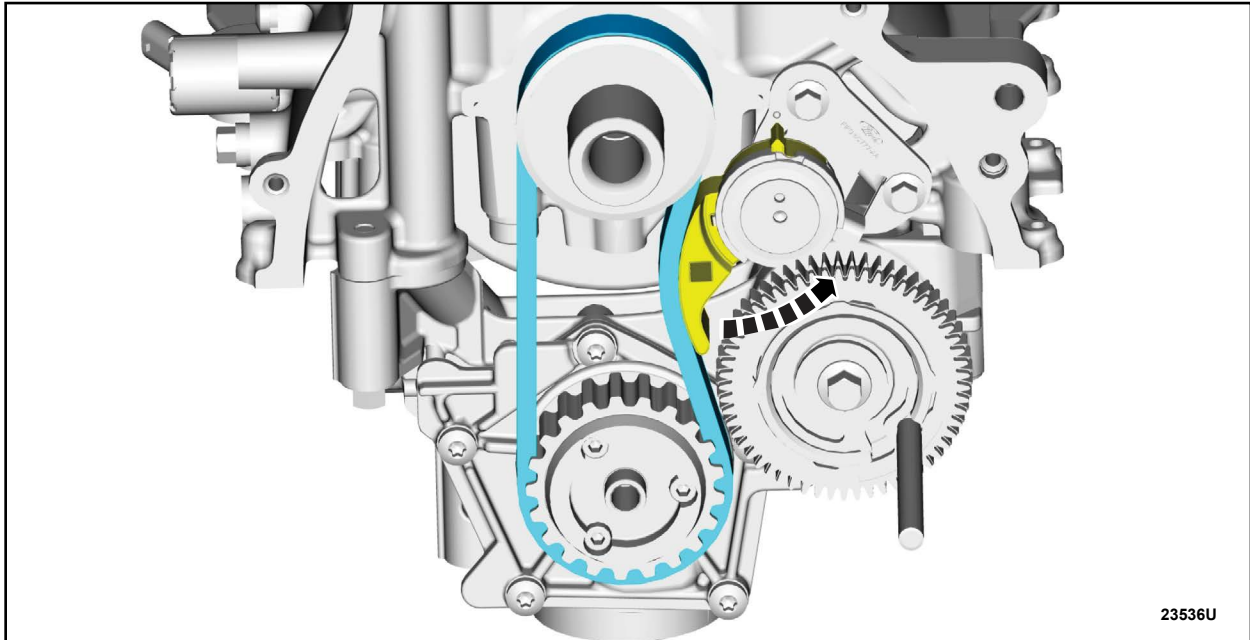

FIGURE 23
30. Using a suitable tool, rotate the oil pump belt tensioner and install a *new* oil pump belt. See Figure 23.